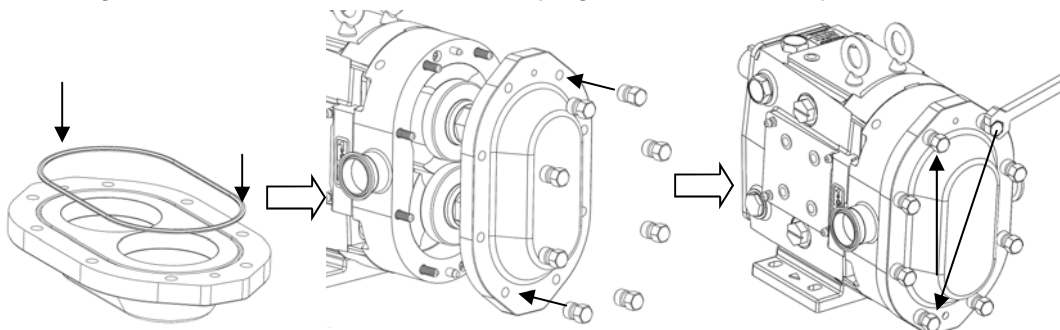

Figure 53: Cover Assembly
3) Install the new cover o-ring and slide the cover over the studs making sure that the dowels in the body are aligned with the correct dowel holes in the cover (Figure 53). Visually inspect to ensure that the cover o-ring remained in place. Turn the cover nuts (clockwise) by hand and fully tighten them using the appropriate wrench. Tighten the rotor nuts in an opposing manner as seen on Figure 53, so that the cover is evenly tightened to the body.